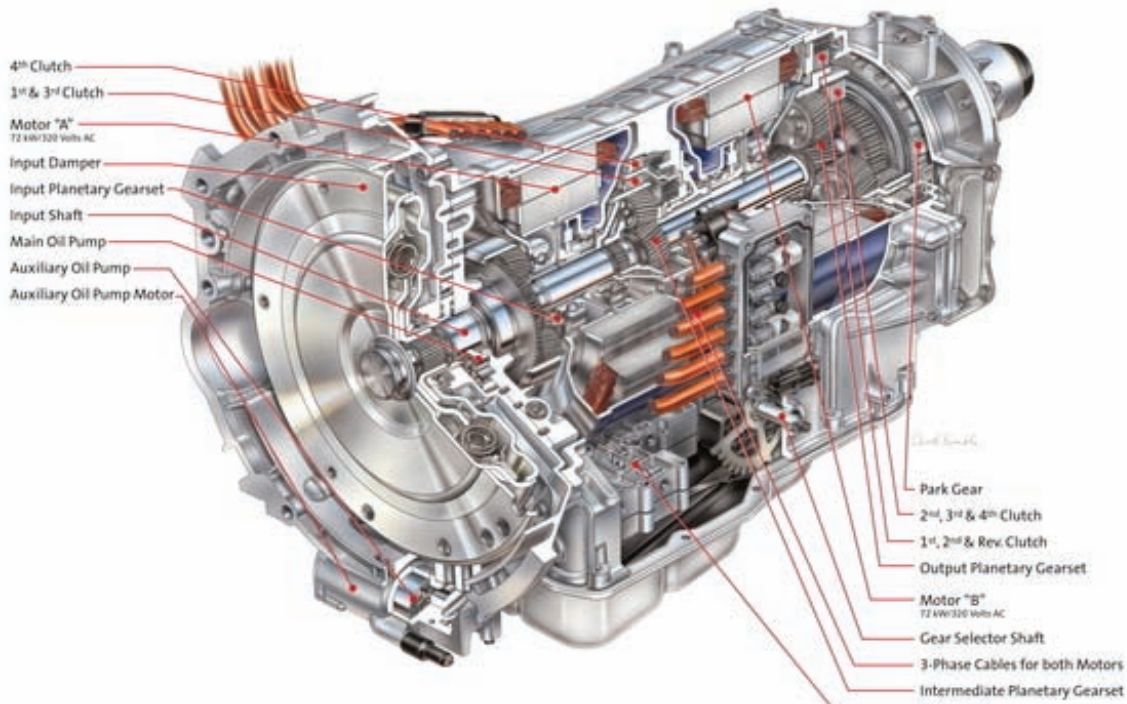

Figure 1
- Type: 2-Mode continuous electric ratio hybrid transmission; 4 fixed gear ratios; 2 electric motors provide infinite variable ratios, with engine on/off operational capability (Figure 1)